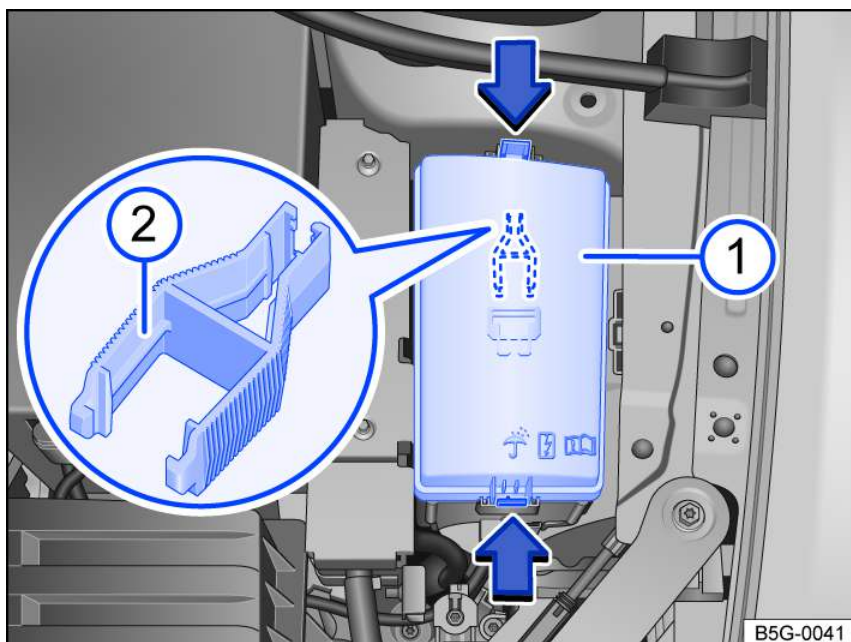

Fig. 136 In the engine compartment: Fuse box.
- ① Fuse box cover.
- ② Plastic pliers for pulling out fuses.
The plastic pliers fig. 136 ② for removing fuses can be found on the inside of the fuse box cover or on the fuse panel.
2. Press the catches in the direction of the arrow fig. 136 ① to release the fuse box cover.